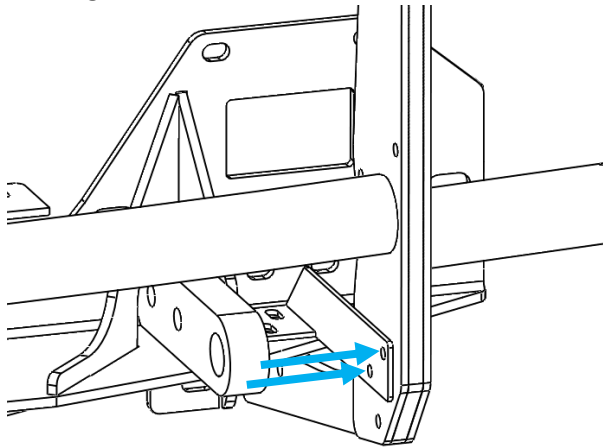

Figure 24: Drill Location on Light Bar Using Light Bar Straps
33. Follow the separately provided instructions for installation of the Aluminess Light Bar/Brush Guard (PN 280096), omitting the installation of the brackets onto the front step area of the factory bumper. Once the installation of the hidden winch mount and light are complete, drill a hole through the light bar supports using the light bars straps as a template. Reference Figure 24.
34. Install 1/4"-20 x 1-1/2" bolts with corresponding hardware through light bar straps and light bar supports (Figure 24).